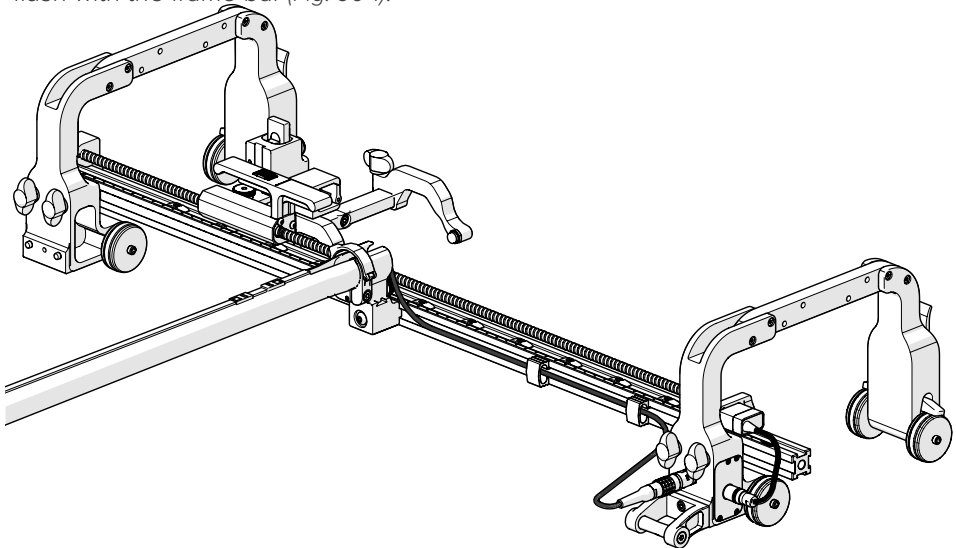

Fig. 91 - Route cabling
2. Plug in the encoder cable to the encoder connection (see *Encoder Connection on page 14*) and route the encoder cable through the cable management (see *Cable Management on page 26*) and cable clips (Fig. 91).